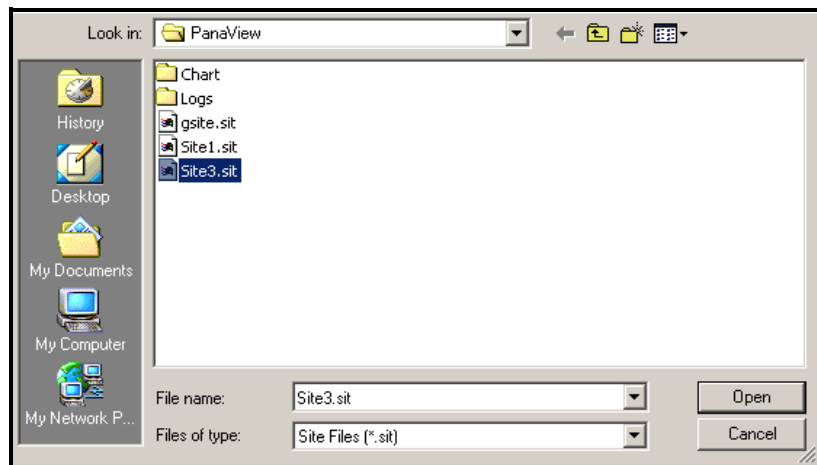

Figure C-15: Site File Selection
2. Then click on the *Save Site to Meter* button. A screen opens similar to Figure C-15 below.
3. The *Site File Selection* window (Figure C-15 on page C-12) opens. Highlight a site with the desired settings, and click [Open]. PanaView saves the site in the meter with the new name and the desired settings.
3. The *Site File Selection* window (Figure C-15 on page C-12) opens. Enter the desired site name (now with a .prt suffix) and click [Save]. PanaView displays a text version of the site, as shown in Figure C-17 below.